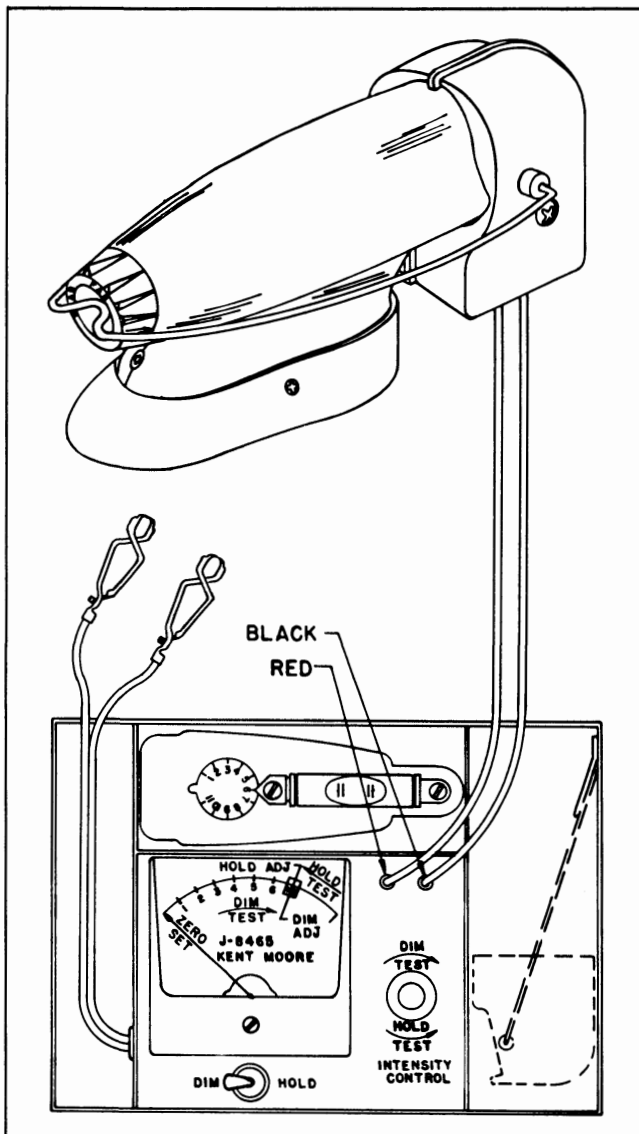

Fig. 12-29 Dim and Hold Test Equipment Installed
2. Install tester J-8465 (Fig. 12-29).
5. Turn zero corrector on face of meter until meter pointer is on zero set line (Fig. 12-29).